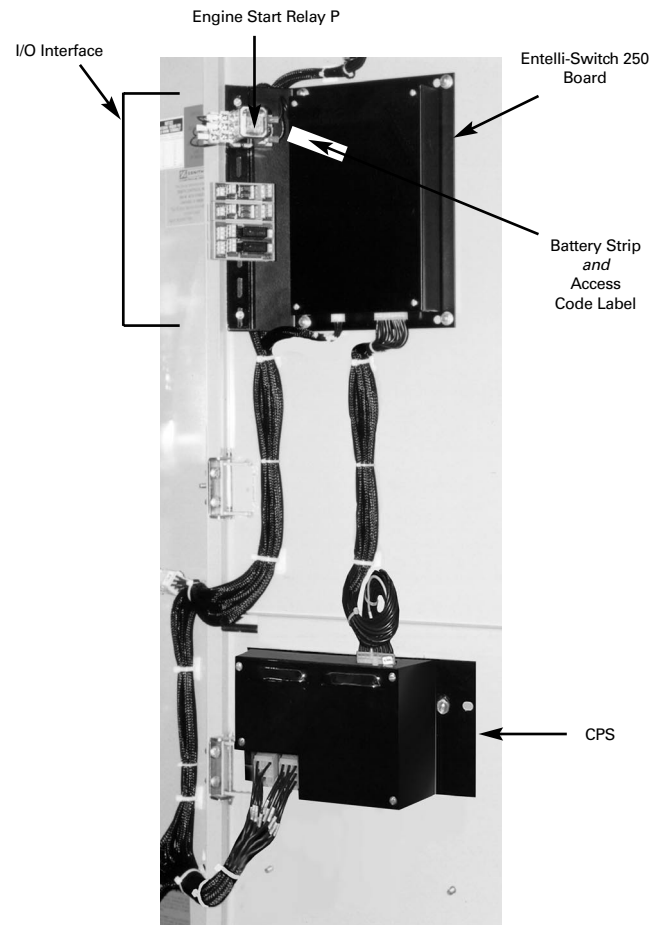

Figure 7
- A. Entelli-Switch 250 Board - Customer Input and Output (I/O) for system interface. Located on the left hand side of the back of the unit (see figure 7)
Contains transformers which drop line voltage to control level for controller input and SCR inputs (see figure 7).